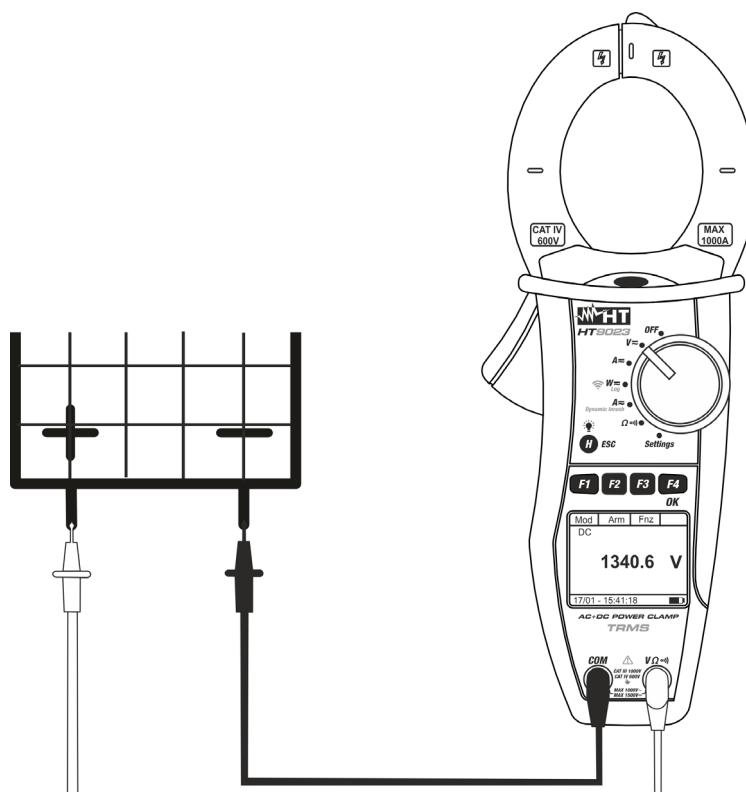

Fig. 5: DC Voltage measurement
4. Connect red cable to input lead **VΩ(1)** and black cable to input lead **COM** then position the leads at the desired points of the circuit under test (see Fig. 5)